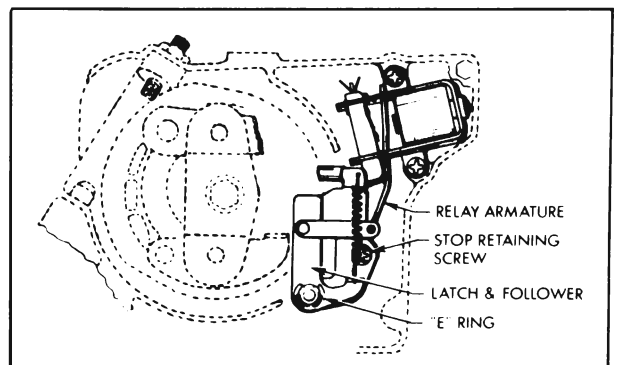

Figure 1-29—Disassembly of Relay and Latch
2. Disconnect coil spring, remove "E" ring and lift the latch and follower assembly off the pivot pin and relay armature. See Figure 1-29.